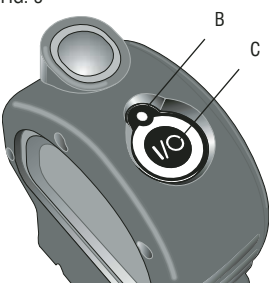
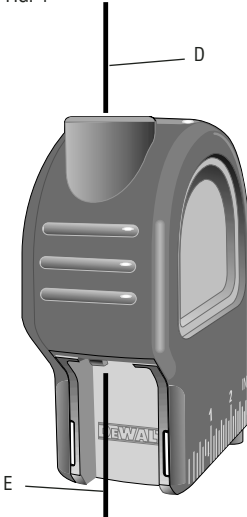

FIG. 4
FIG. 5
- For initial use, install fresh batteries. Press the ON/OFF (C) button once to power the laser ON. The laser will turn on and project two beams; one up (D) and one down (E) as shown in Figure 4.
The DW082 Laser Plumb Bob is designed to self-plumb. If the laser has been tilted so much that internal mechanism cannot plumb itself (> 4° tilt), it will flash the laser beam (Fig. 5). The flashing dot indicates the tilt range has been exceeded and **IS NOT PLUMB AND SHOULD NOT BE USED FOR DETERMINING OR MARKING PLUMB**. Try repositioning the laser on a more level surface.
The DW082 Laser Plumb Bob has been designed to self-plumb up to 4° in all directions when positioned as shown in Figure 4. If the laser is tilted so much that internal mechanism cannot plumb itself, it will flash the laser (Fig. 5) – the tilt range has been exceeded. **THE FLASHING DOT CREATED BY THE LASER IS NOT PLUMB AND SHOULD NOT BE USED FOR DETERMINING OR MARKING PLUMB**. Try repositioning the laser on a more level surface.